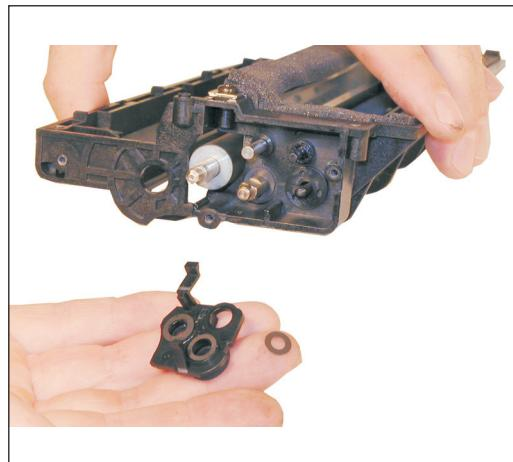

Figure 19
- 14) Gently pry out the roller plate from the cartridge. The foam seal, and plastic flat washer will come out with it. Be careful not to damage the foam seal, or loose the flat washer. See Figure 19